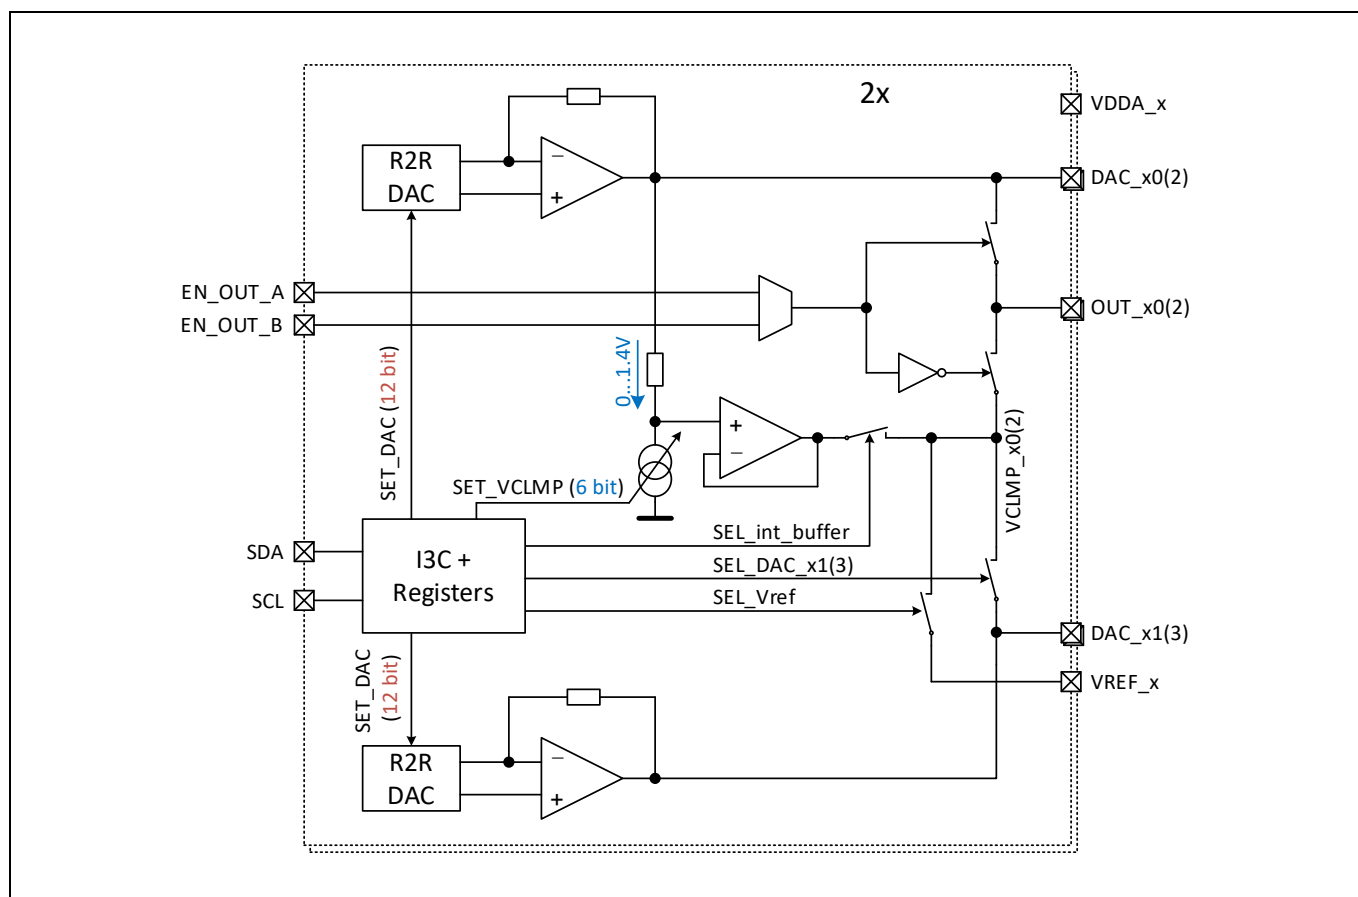

Figure 5 DAC and Bias Switches
The BGMC1210 IC offers 2 independent groups of outputs A and B, each consisting of 4 DACs with separate supply domain per group. Block diagram of one such DAC group is shown on Figure 5 (half is shown for clarity reasons). 2 of the DACs (DAC\_x0(2)) are connected to OUT\_x0(2) outputs via gate biasing switches for TDD support. Every DAC has a 12 bit resolution, internal reference voltage and can be adjusted in range and offset. Supply range per DAC group is defined by reference potential VREF\_x and supply input VDDA\_x: (VDDA\_x - VREF\_x). Supply can be selected in voltage range from -8...0V up to 0...8V, so that enhancement type LDMOS transistors as well as depletion type GaN transistors are supported.